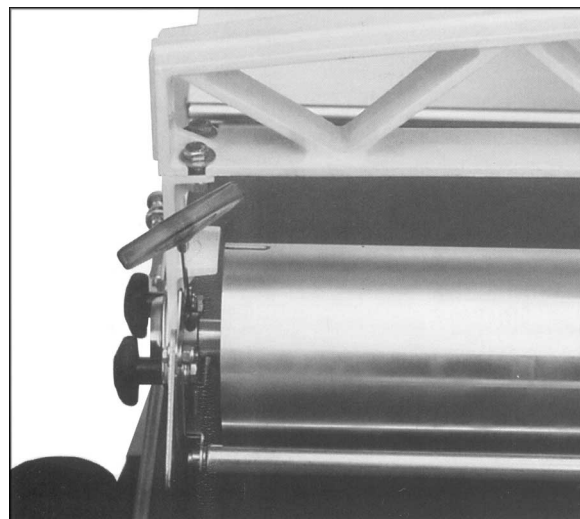

Figure 39
2. Loosen the set screws in the bearing collar (Figure 39). Leave the set screw wrench in one of the set screws. Then rotate the drum within the bearing and tighten the set screws.